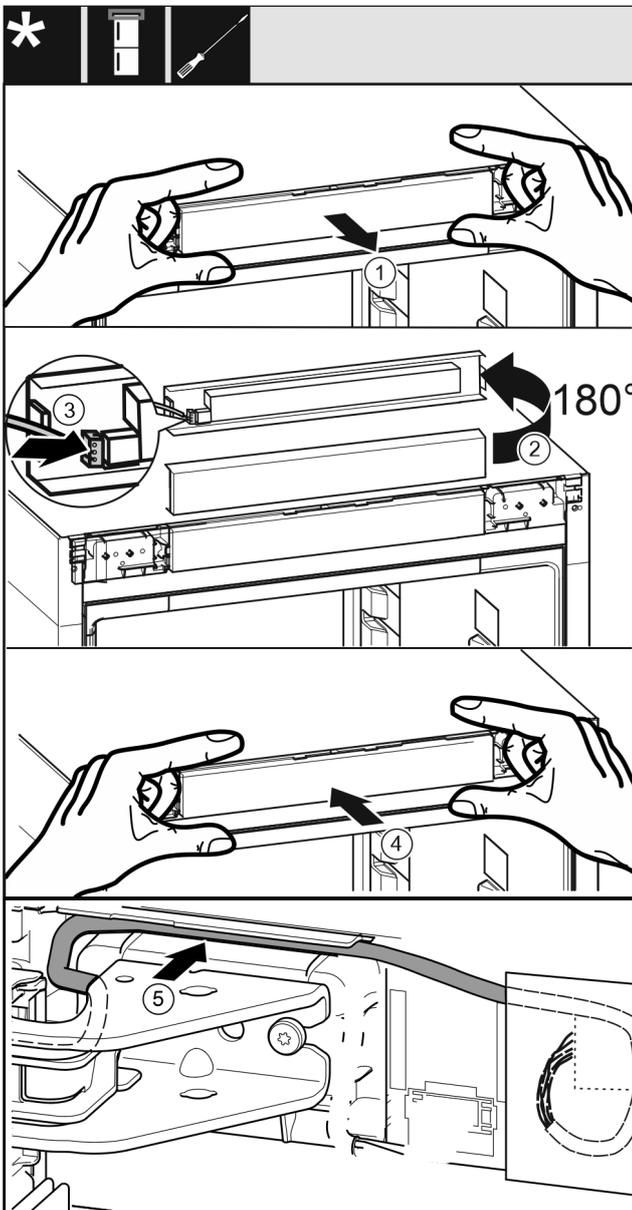

Fig. 62
- ▶ Remove the control panel trim Fig. 62 [1] carefully.
- ▶ Turn the control panel trim Fig. 62 [2] up by 180°.
- ▶ Engage the plug Fig. 62 [3] on the control panel trim.
- ▶ Re-engage the control panel trim Fig. 62 [4] on the appliance.
- ▶ Lay the cable Fig. 62 [5] carefully in the guide above the top swap bearing block.